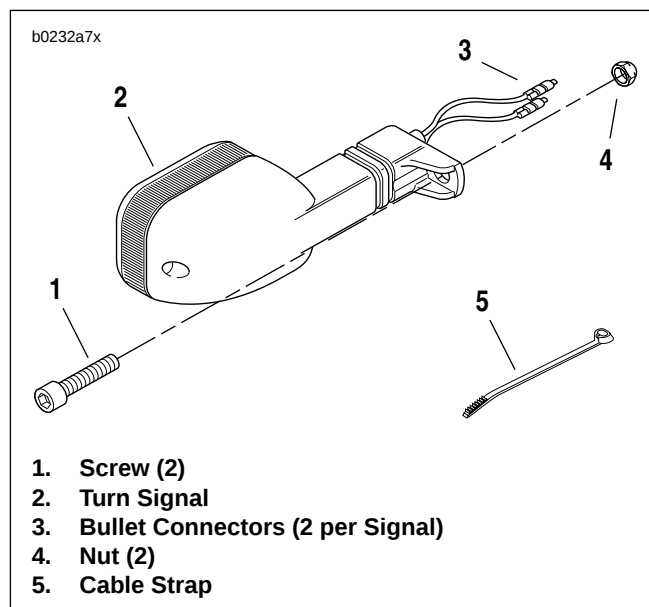

Figure 7-45. Rear Turn Signals
4. See Figure 7-45. Remove screws (1) and nuts (4).
5. Remove turn signals (2) from tail section.
1. See Figure 7-45. Insert bullet connectors (3) through rear hole in license plate bracket. Attach turn signals (2) using screws (1) through front hole and nuts (4).